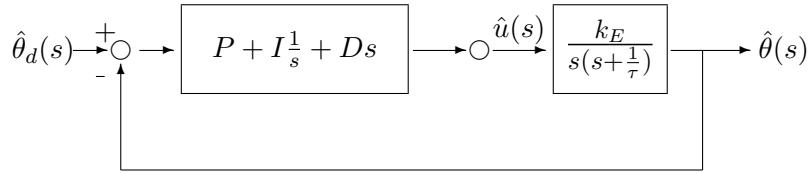
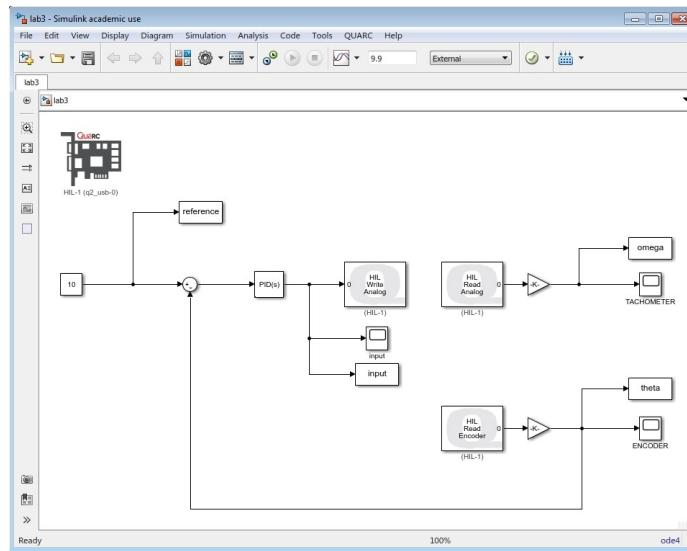

Figure 3.1: PID control system
Figure 3.3: Simulink model for the implementation of PID control
In this lab you will be examining the effects of feedback on system performance. In particular, you will design a control,  $R_C$ , for the motor using the principles of PID control as shown in Figure 3.1.
1. Using the Simulink model shown in Figure 3.3, and identify the corresponding components from Figure 3.1. i.e. what block acts as the plant, what is the reference trajectory, input, output, etc.
1. Prepare a Simulink model to implement a PID controller as shown in Figure 3.3. *Modify your model from lab 1 or 2.* The PID block can be found in the Simulink
2. Set the desired angle to 10 radians. The desired input is entered as shown in Figure 3.3 in the **Constant** block. Remember to use the appropriate gain values from Table C.1 for the encoder and tachometer to show results in radians. Do not forget to change the **solver** to **ode 4** in **Configuration Parameters** (**Ctrl+E**). Build and run the Simulink model using only the proportional term. Comment on the effects of using various values of  $P$ . In particular, comment on the overshoot, rise time, settling time, and the steady-state error for different values of  $P$ , and be sure to tabulate this data (a table in Excel is an efficient way to do this). Use at least three different values of  $P$ .